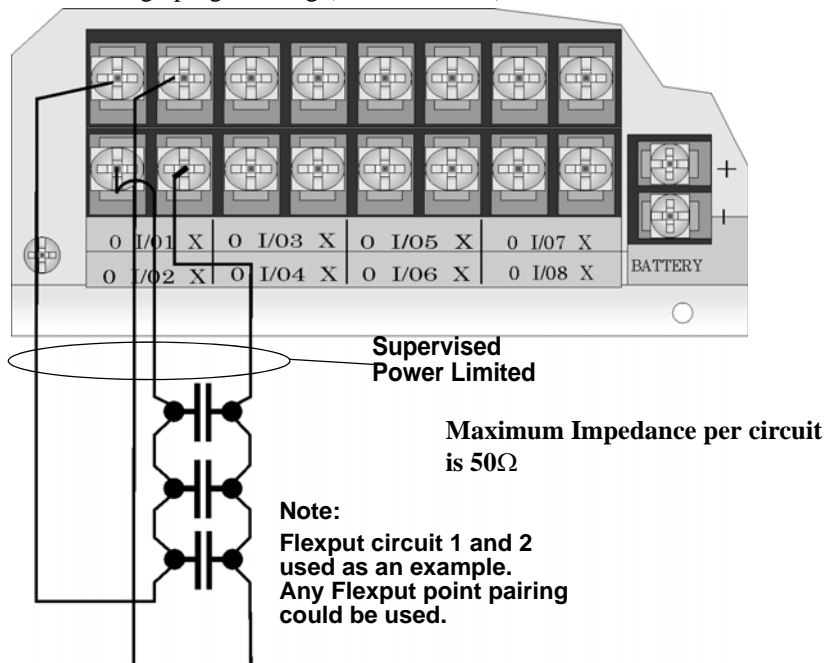

Figure 4-35 Class A initiating Switches
- Wire the Class A switch as shown in Figure 4-35.
*Note: In programming any point that uses multiple Flexput circuits, the lowest Flexput circuit number is used to refer to the circuit pair. For example, Figure 4-35 uses both Flexput circuit 1 and 2, so in programming it would be referred to as point 1.*